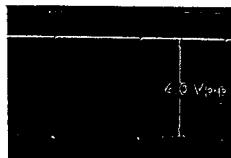

Fig. 2-3
- 2) Adjust R62 (VD LEVEL) so that a voltage of 4 Vp-p ± 0.2 V is obtained as shown in Fig. 2-3.